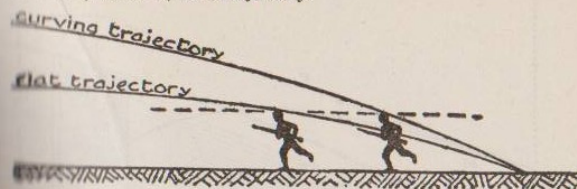

FIG. 6.
The SLEEVE—bottom view, Fig. 13, side view Fig. 14. Handle A; Cocking Piece Slot B; Pawl Lugs C; Safety Catch Hole D; Safety Catch Spring Pin Hole E; Extractor Slot F; Guide Ways G, which fit the Guides shown in Receiver at A, Fig. 6, upon which the action slides. The interior of the Sleeve has Long and Short Female Spirals corresponding with the Male Spirals on the Bolt.
For vertical sectional view of Receiver, see Fig. 6, Plate "B".
- 3. The flatter the trajectory (Fig. 6).